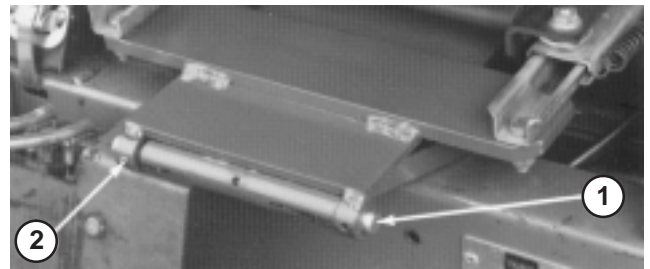

Figure 5
3. Mount seat and seat support to seat pivot bracket with pivot shaft and roll pin (Fig. 5).
5. Mount seat and seat support to seat pivot bracket with pivot shaft and roll pin (Fig. 5).